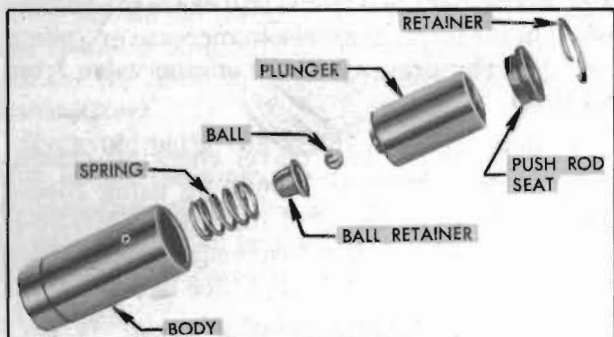

Figure 2-19—Hydraulic Valve Lifter Parts
2. In the same manner, rinse the other parts one at a time and immediately place them in the body in the following order: spring, ball retainer, ball, and plunger. See figure 2-19. The plunger must slide freely into the body.